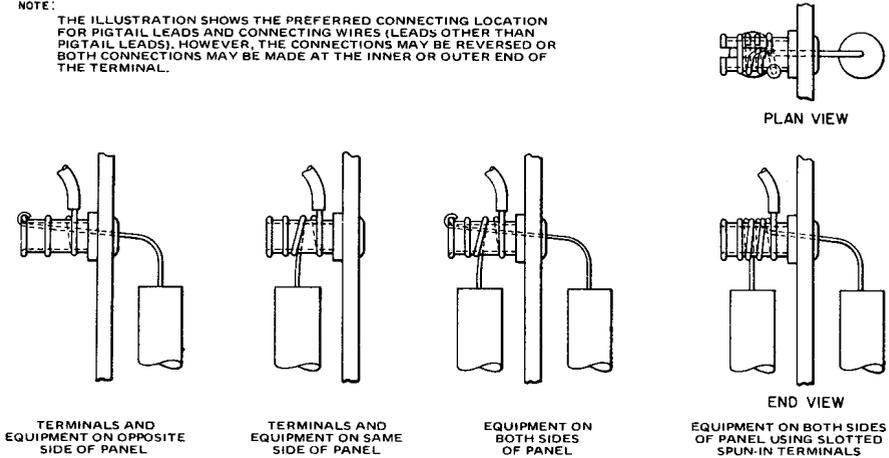

FIGURE 14. Plier Connections to Spun-In Terminals (Solder Not Shown)
- 11.02 *Spun-In Terminals*: These terminals are frequently used for mounting pigtail equipment. Make the connections as follows (see Figure 14):